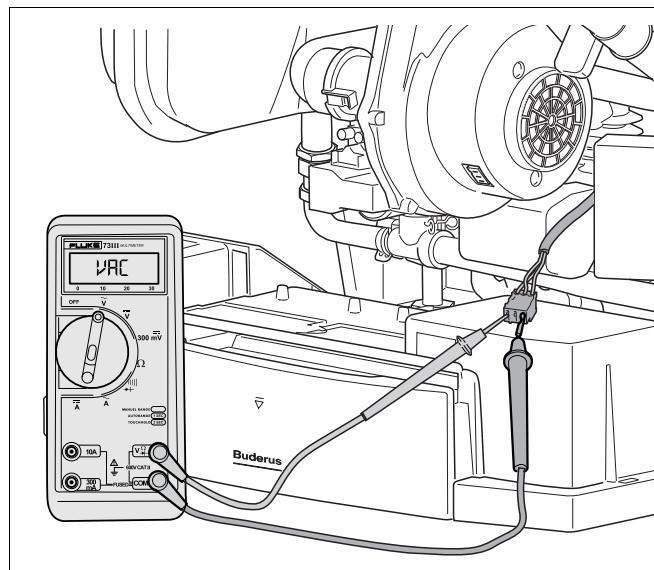

fig. 8 Checking for 120V AC voltage
- Connect the volt-ohm-multimeter to the outer two plug contacts (blue and brown) (see fig. 8).
- Check that while the operating code is displayed, 120V AC is available on the outer two contacts (blue and brown) of the plug (see fig. 8).